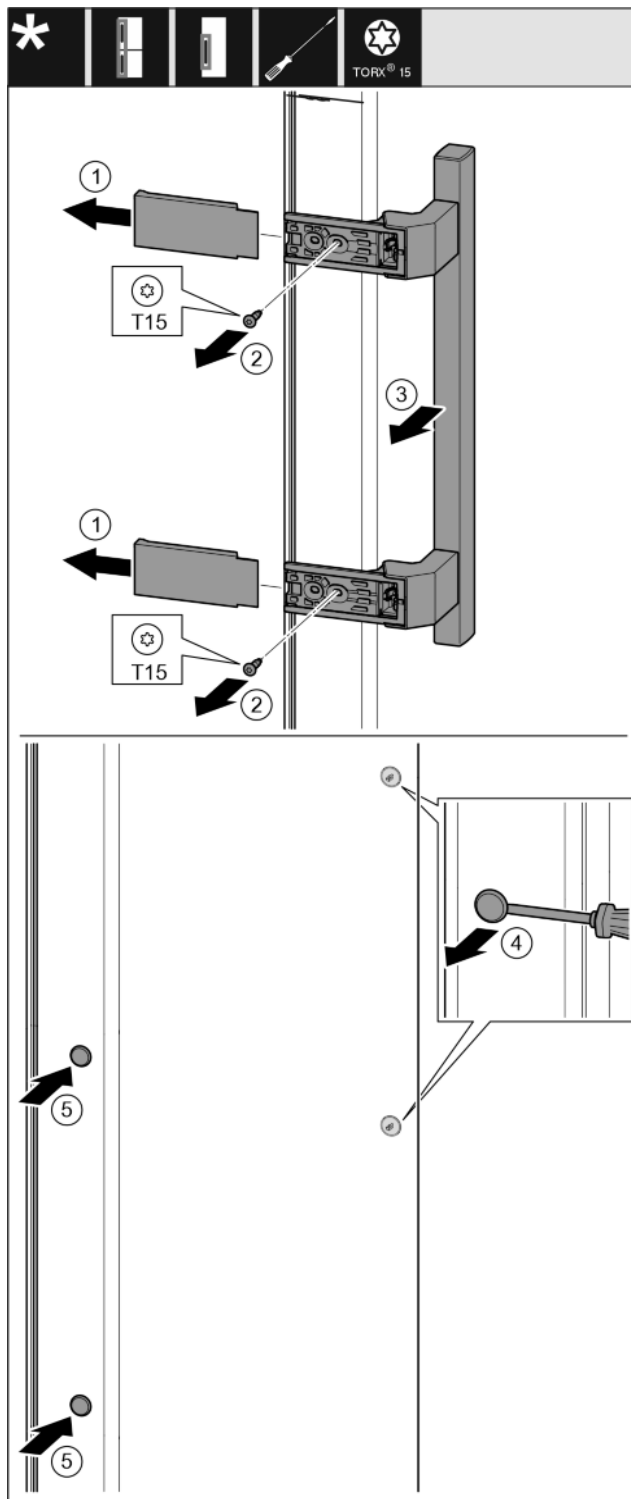

Fig. 30
- Pull off the cover. Fig. 30 (1)
- Remove the screws with a T15 screwdriver. Fig. 30 (2)
- Take off the handle. Fig. 30 (3)
- Carefully lift up the side plugs with a slotted screwdriver and pull them out. Fig. 30 (4)
- Insert the plugs again on the other side. Fig. 30 (5)